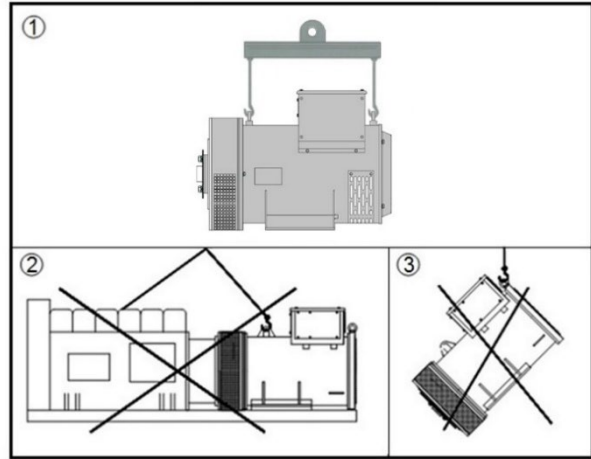

Figure 3.1: Handling of alternator
- The positions **1** on Figure 3.1, represent the proper way of handling alternators and positions **2 and 3** show the wrong ways;